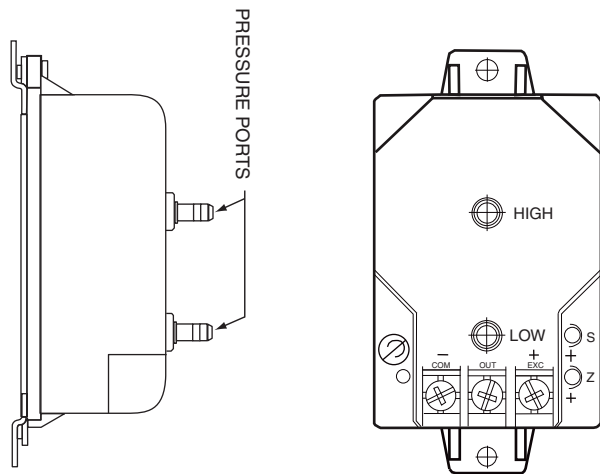

Fig. 13 — Building Pressure (BP) Transducer
6. Connect LOW tap of transducer to ambient location tap on unit using the control tube provided. Install field-supplied "tee" as required. See Fig. 13 and 14.